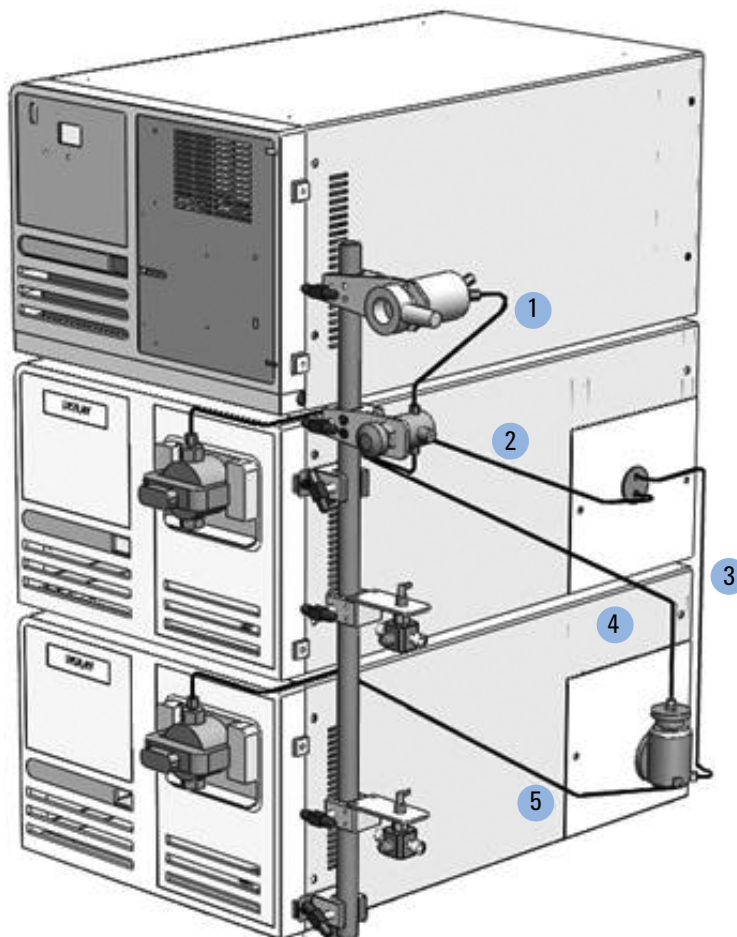

Figure 3 Installed tubing Kit
- 2 Carefully route the tubings according to Figure 3 on page 11 and Figure 4 on page 12. No additional bending of the tubings should be required.